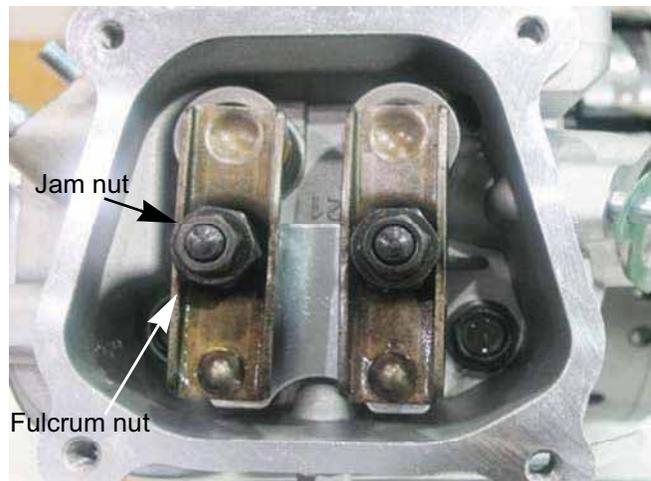

Figure 9.5
- A. Loosen the jam nuts and fulcrum nuts that secure the rocker arms using a 10mm wrench and a 14mm wrench. See Figure 9.5.